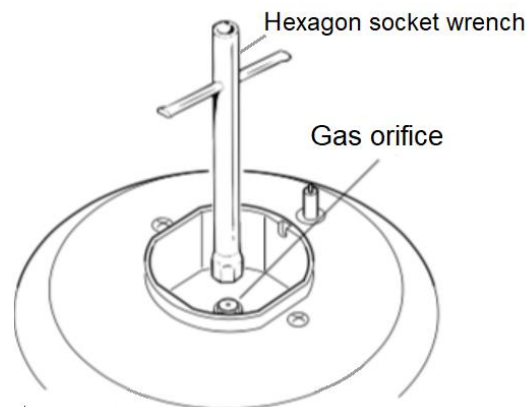

Fig.11
4. Using the 7 mm hexagon socket wrench to remove the orifice by turning it counterclockwise (as Fig.11). Set gas orifice aside.